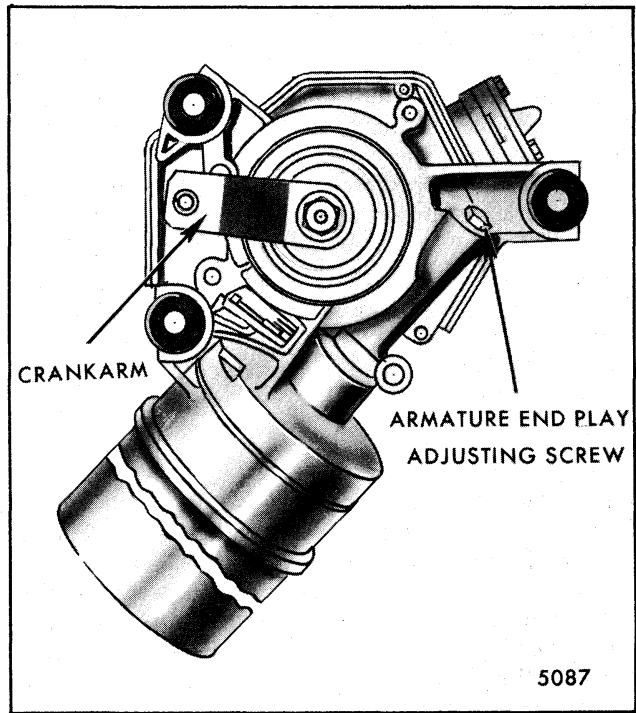

Fig. 2-47-Wiper Motor and Crank Arm in Park Position
13. Adjust armature end play screw (Fig. 2-47).
8. Operate wiper to "park" position and install crank arm in the approximate position shown in Figure 2-47.
1. Loosen adjusting screw locknut (Fig. 2-47) and tighten or loosen the adjusting screw as required until end of screw barely touches end of armature.